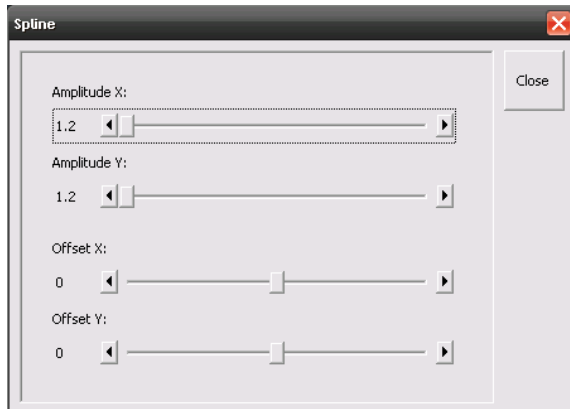

Fig. 4-144 Spline window
- The **Spline** window appears on the screen (see Fig. 4-144).